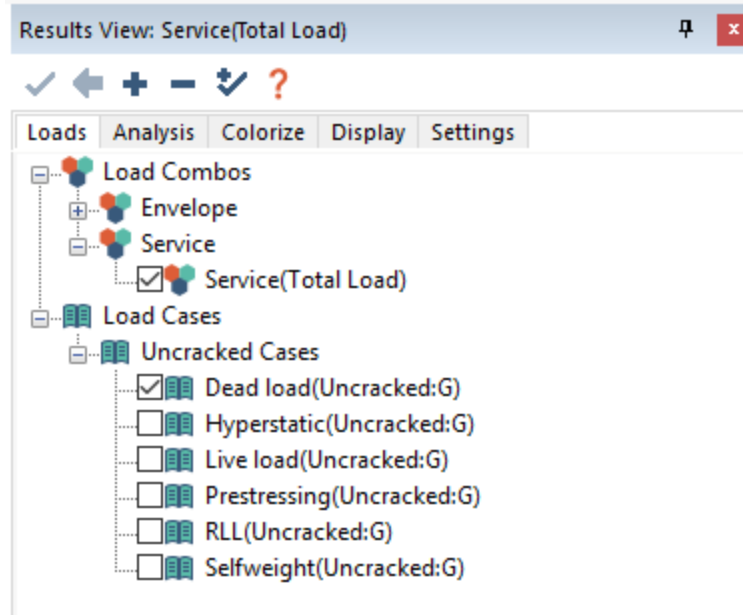

Figure 6-7
- Once the solution is saved the program will open the *Results Browser* window docked on the right side of the modeling interface as shown in **FIGURE 6-7**.
- In the *Results Browser* window from **FIGURE 6-7**, the default view of the browser is of the *Loads* tab. In this tab we can select the load combination or load case we want to view results for. We only analyzed the model for just the *Service (Total Load)* load combination so only that individual load combination will be available in the *Load Combos* → *Service* tree. Since we have not defined any loading or modeled any post-tensioning the effect on this load combination will be 0 for these load cases, leaving us with only the self-weight of the model within this load combination.